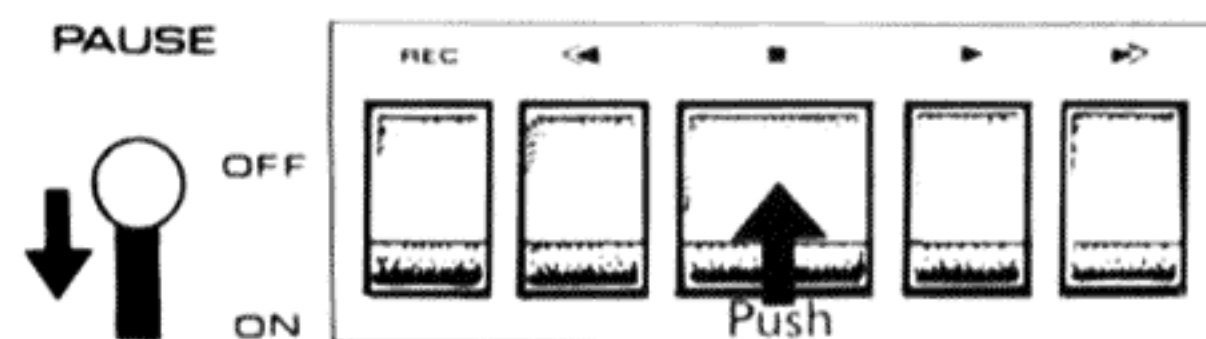

Fig. 23
10. To interrupt playback momentarily, set the PAUSE switch to position ON (Fig. 23).
11. To stop playback, push the ■ STOP button (Fig. 23). When the tape runs out, however, the unit will be stopped automatically by the auto-stop switch which is linked to the tension arm.